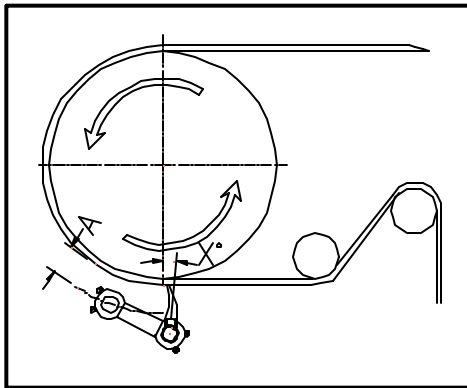

Fig. 3
Swing the cleaner frame up until it contacts the belt. Make sure that the blade contacts the belt and is mounted parallel with the face of the belt. Tighten the set screws in the pivot arms on the tensioner pipe. You may need to adjust the angle of the blade at this point. It should be angled in the direction of the belt travel (see fig. 3). After this has been done, you may complete the welding job on the hubs. Three (3) one inch (1") welds spaced around the hubs are all that is needed.